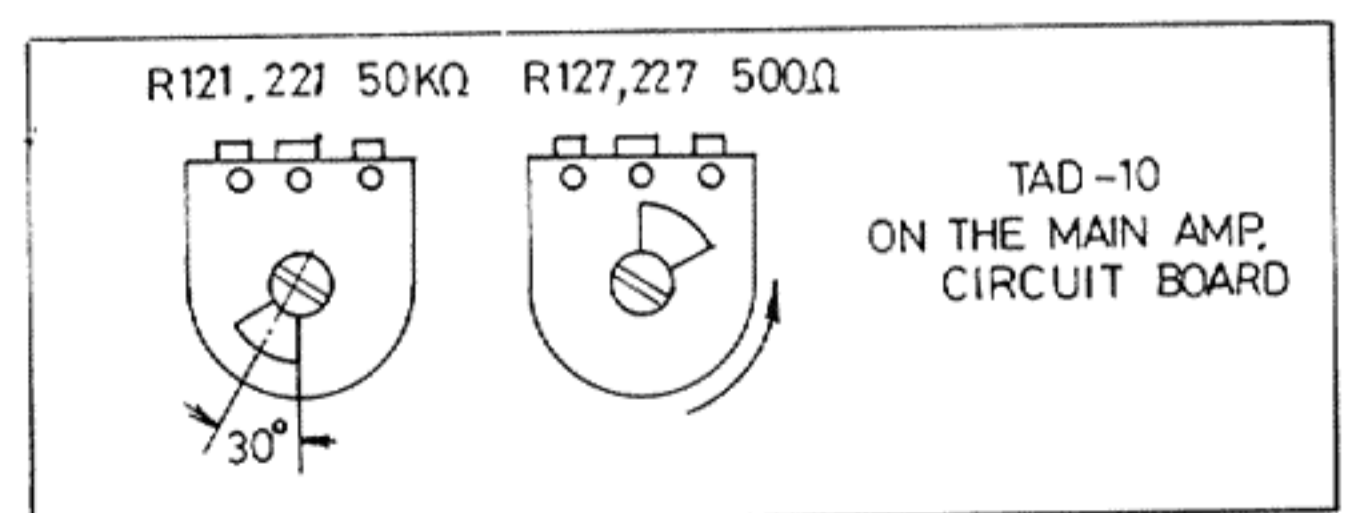

Fig. 17
- Set the shaft of semi-variable resistors on the circuit board (TAD-10) as shown in Fig. 17.